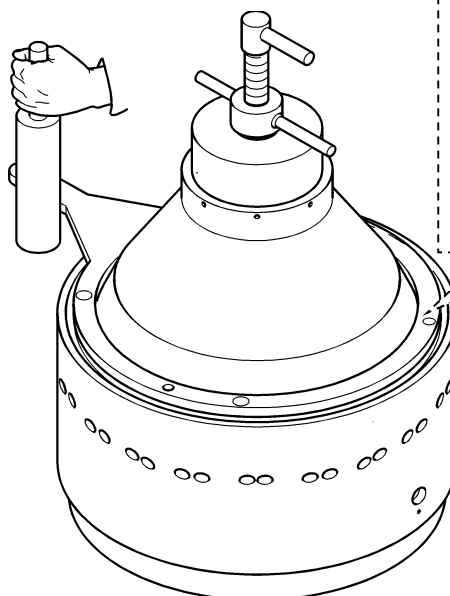

Figure 6.21
- 8) Strike with the mallet (09.030.0) the spanner handle (09.150.0), to unscrew the **big lock ring** (Fig. 6.21), until loosen it (left-handed thread). Then take it out.